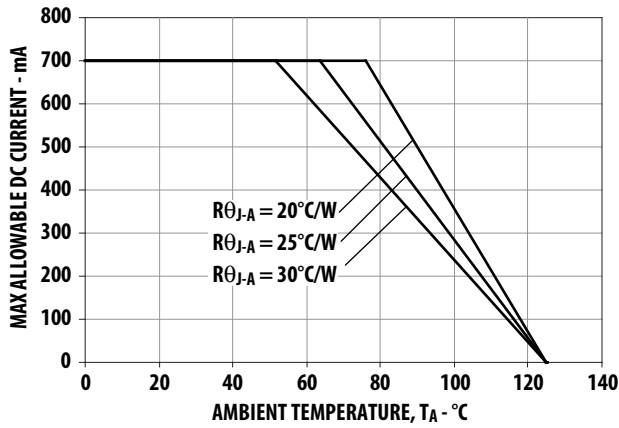

Figure 10. Maximum Forward Current vs. Ambient Temperature. Derated based on T_{JMAX} = 125°C, R_{θJA} = 20°C/W, 25°C/W and 30°C/W.
1. Derate linearly based on Figure 10 for AllInGaP and Figure 22 for InGaN.